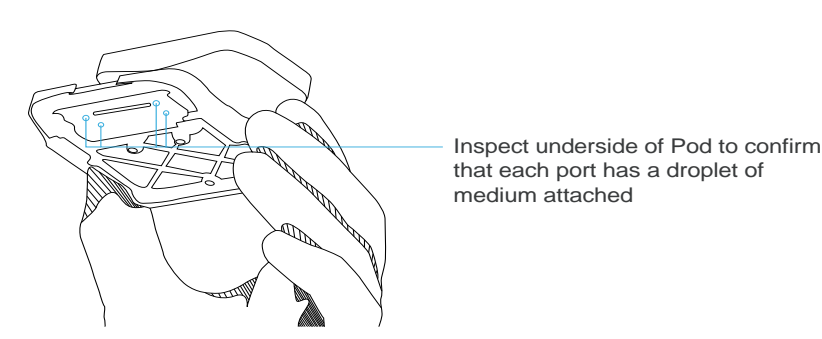

Figure 11: Correct way to hold Pod while inspecting
10. Once it is confirmed that all Pod ports are wet with droplets, leave the tray with Pods in the incubator while washing the chips until you are ready to connect the chips to the Pods (See Figure 11).